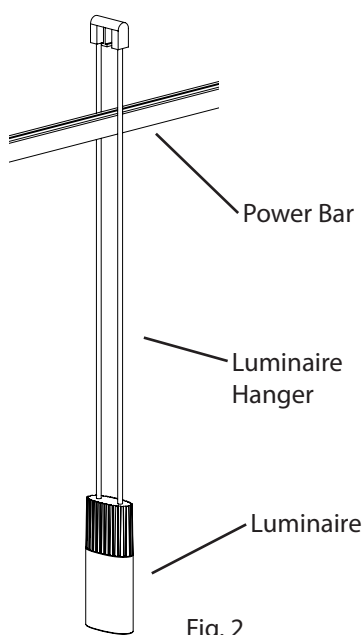
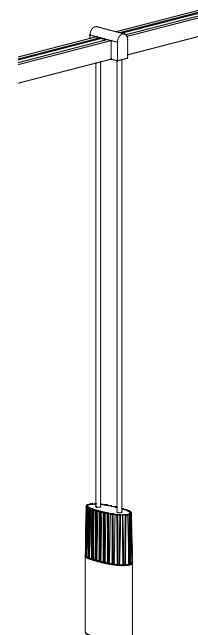

Fig. 2
Fig. 3
1. Align **Hanger** with **Power Bars** (Fig. 2) and press down firmly on the top (or bottom) of the Power Bar, while pressing up (or down) on the bottom of the Hanger, until the Power Bar clicks into place (Fig. 3).
1. Place the **Luminaire Hanger** over the **Power Bar** (Fig. 2).
2. Press down firmly on the top of the **Luminaire Hanger**, while pressing up on the bottom of the **Power Bar**, until the Luminaire Hanger clicks into place (Fig 3).
3. To remove, tip the **Parallel Luminaire Hanger** in the direction of the **Power Bar** to release the **Snap Hooks**, then pull the Parallel Luminaire Hanger off the Power Bar (Fig. 3).
3. Press the **Hanger Rod** up against the Hanger Hub and screw in the **Hanger Cap**. Be sure the brass contacts on the Hanger Hub are touching those on the Hanger Rod (Fig. 3). **NOTE:** Do not fully tighten.